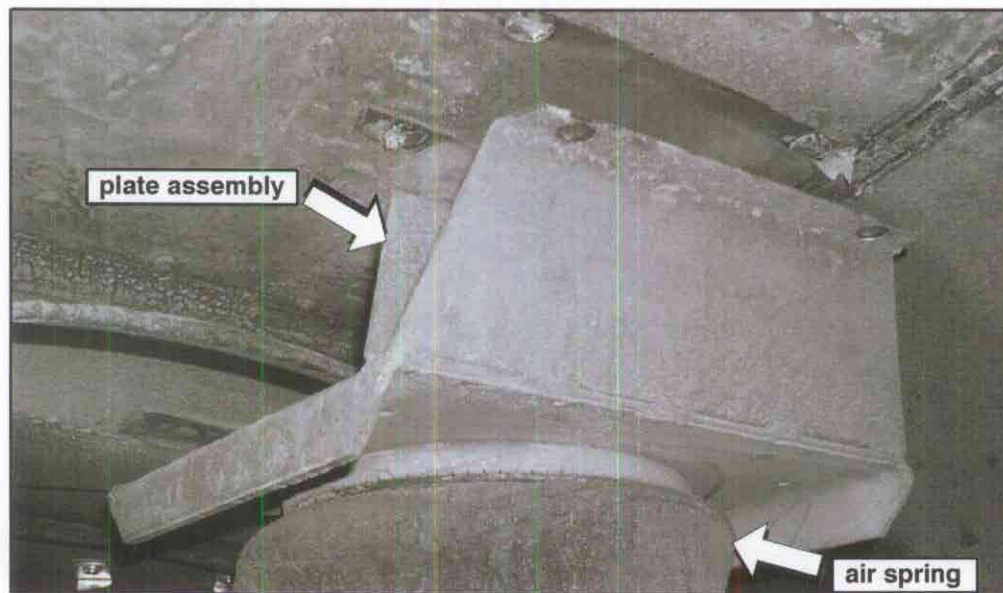

Figure 4.
15. Remove and discard the plate assembly and mounting hardware (Figures 4 and 5).